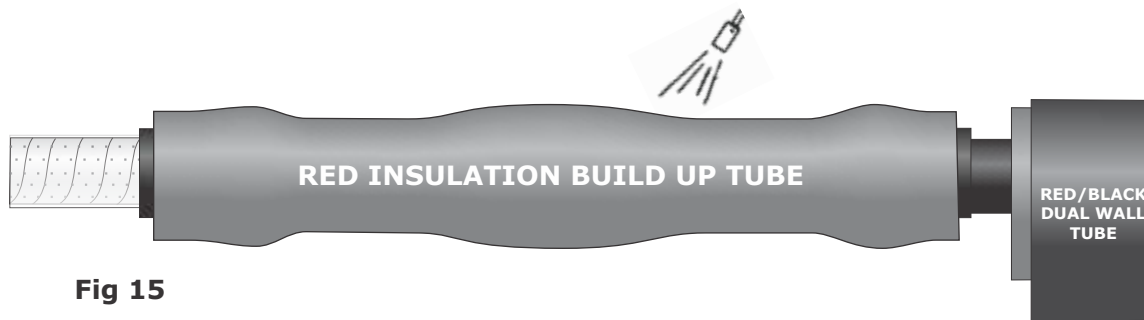

Fig 15
22. Now centrally position the first set of red insulation build up tubes as shown in Fig 15 and apply heat from the centre to one end at a time. Heat as before to ensure an even wall thickness.